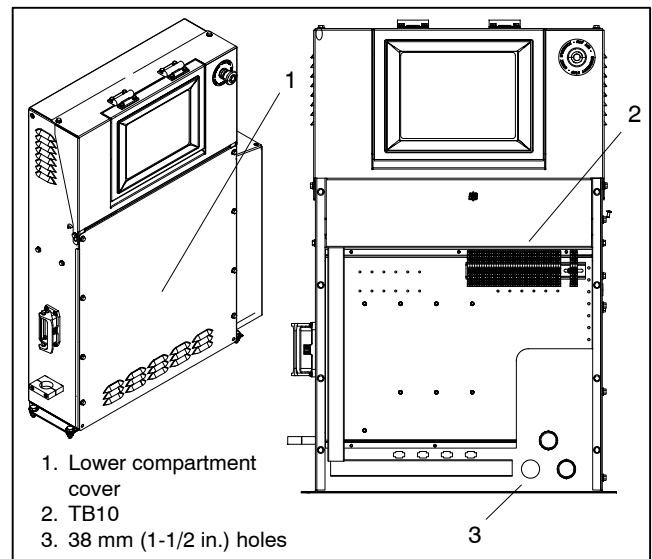

Figure 3 Lower Compartment Component Location
2. To access the terminal block, TB10, remove the eight screws from the lower compartment cover on the control panel. See Figure 3.
7. Route the stranded wire through the 38 mm (1-1/2 in.) holes in the back of the control panel to the terminal strip, TB10. See Figure 3. Cut leads to length, strip the ends, and connect to terminals TB10-1 and 2. See Figure 2.